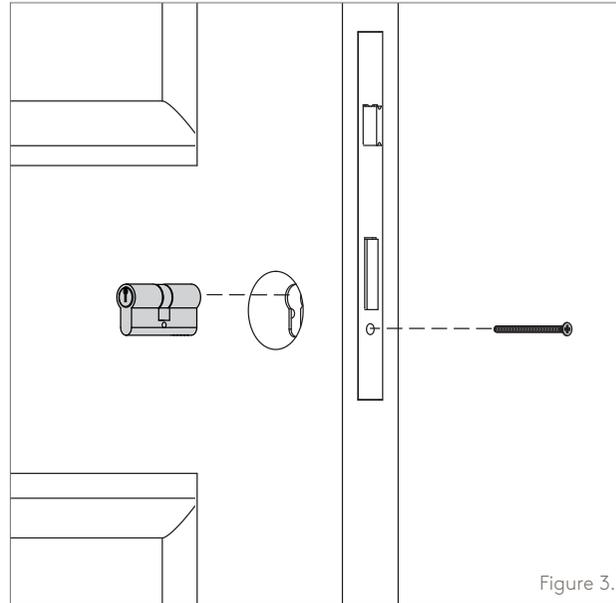

Figure 3.
- 3.1. Insert key/key euro cylinder through the lock body and fix with the appropriately sized cylinder screw provided. (Figure 3.)